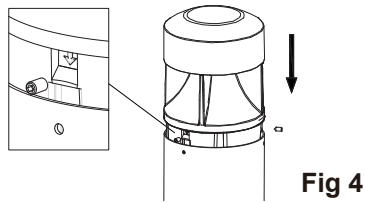

Fig 4
5. Install the head to shaft, align any of the 3 screw holes on shaft with any of the 3 screw slots (marked with arrow) on head, and tighten the screws. **Fig.4**